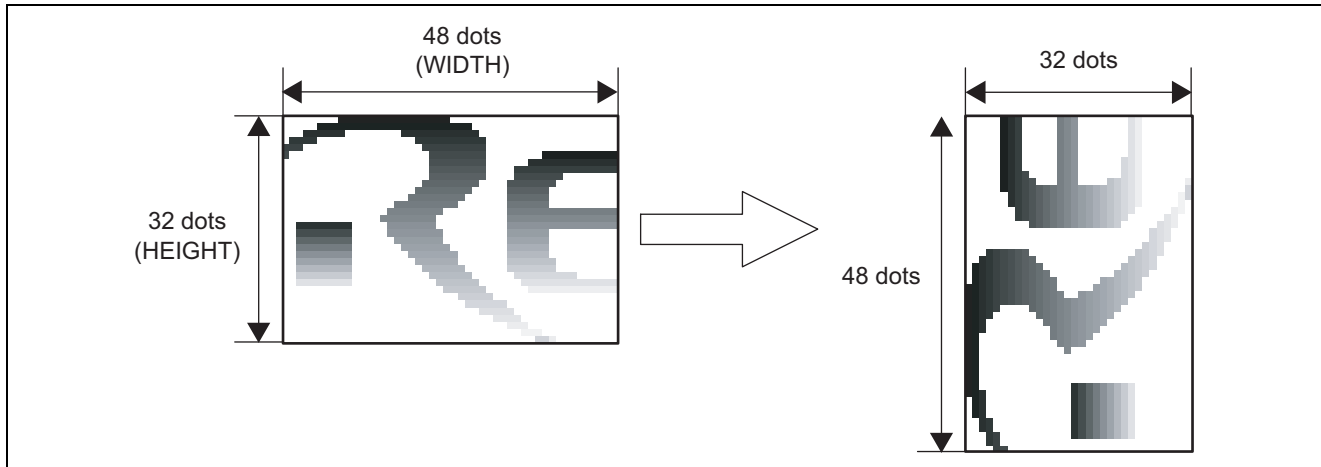

Figure 1 Rotating Image Data Left by 90°
- Image data is rotated left by 90° as shown in figure 1 through data transfer by the DMAC using a mode where the transfer address is updated by adding a specified offset.